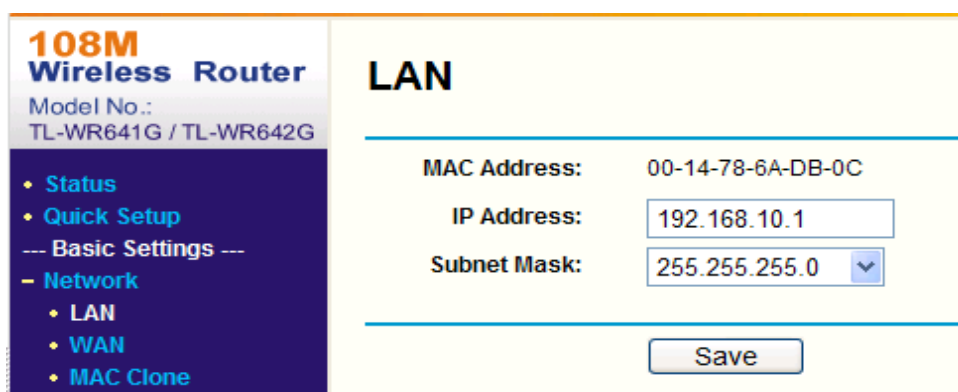

Figure 4.5.2 Set Network Parameters
Step2: Set the network parameters of the router as shown in Figure 4.5.2. The settings include IP address and subnet mask.